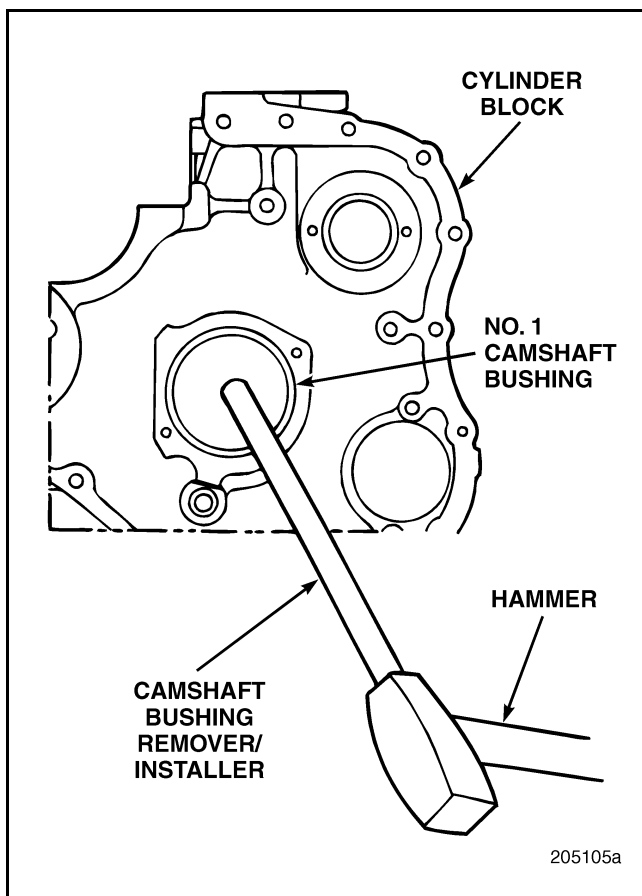

Figure 136 — Camshaft Bushing Removal
1. Using camshaft bushing remover/installer J 42377 (with J 21428-01 Cam Bushing Installer Set) and a hammer, remove the No. 1 camshaft bushing from the cylinder block. Refer to Figure 136.